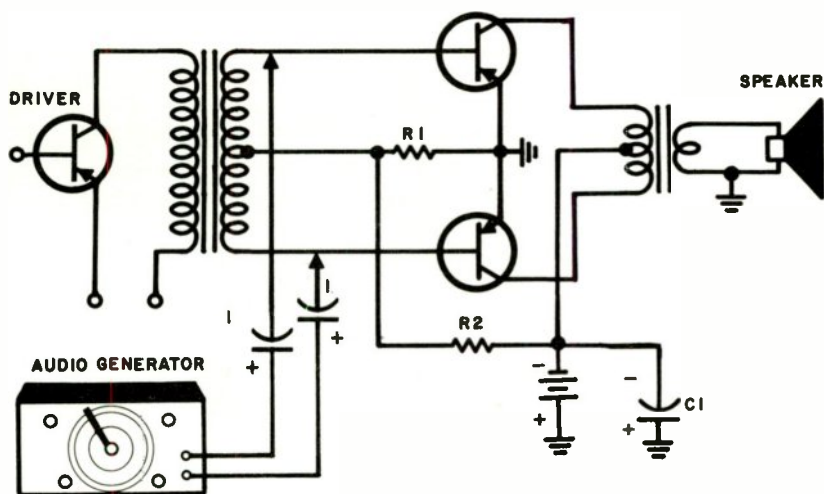
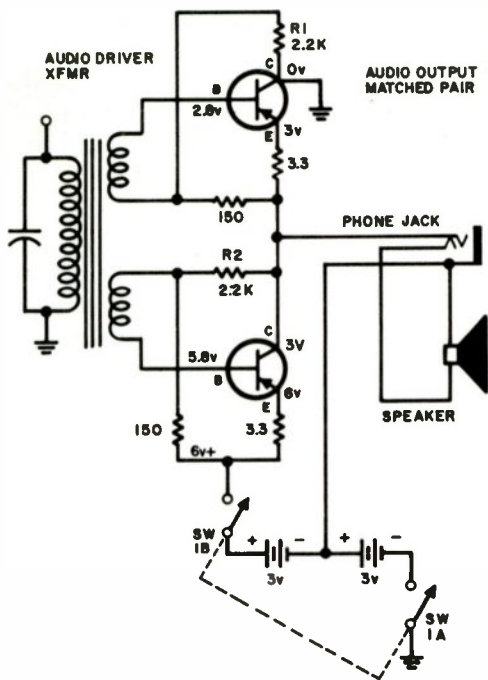

Fig. 312. Testing a push-pull audio output stage. The stage is transformer-coupled at the input and the output.
Fig. 313. Push-pull output stage with direct coupling to speaker and phones.
To get a little more volume out of the speaker and a little less distortion, many transistor receivers have a push-pull output stage, just as shown in Fig. 312.
The quick check for the push-pull output stage is a little bit different. Use the connections shown in Fig. 312.
Fig. 312 is a little unusual so follow the explanation carefully. We have two leads connected to the audio generator. Note that a pair of $1\text{-}\mu\text{f}$ capacitors are in series with each lead. One of these is the ground lead but it really makes no difference which lead is connected to the top transistor and which to the bottom one.
4. Finally, connect the leads as shown in Fig. 312. If the signal comes through, the entire stage is working.
No signal out of the speaker when the audio generator is connected as shown in Fig. 312.
In one way all push-pull stages are alike—the job they are designed to do is the same. One that is really different is shown in Fig. 313.
When we compare the circuit of Fig. 313 with that of Fig. 312 we see that the output transformer has disappeared. The voice coil of the speaker gets the collector-to-emitter current of each transistor, in turn.